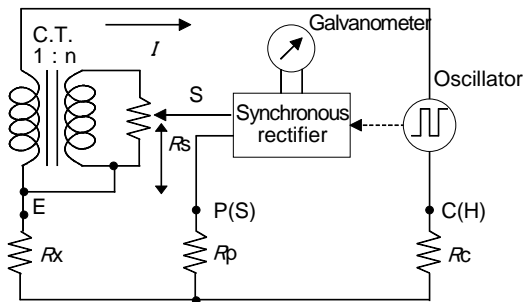

Figure 1 Measurement Principle (3-pole method)
(1) 3-pole method (Precise Measurement)
Figure 1 shows the basic circuit principle for earthing resistance measurement. The measuring current I , driven by the oscillating voltage of the oscillator, flows through the loop formed as follows: oscillator R_c R_x C.T. If the galvanometer is balanced, the voltage between the measurement terminals E - P(S) is taken as E_x , and the resistance between the measurement terminal E and the slider S of the variable resistor is taken as R_s . The voltage drop at the variable resistor is E_s .